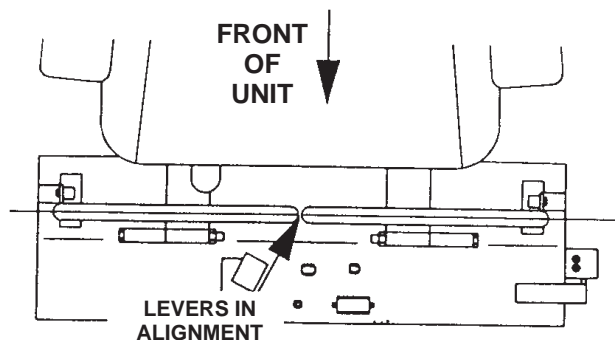

Figure 5
5. If the ends of the levers hit against each other while in the drive position (Fig. 5) (levers rotated in as far as possible), make adjustments by moving the levers outward to the neutral lock position and carefully bend them outward. Move them back to the drive position and check for clearance. Repeat if necessary.